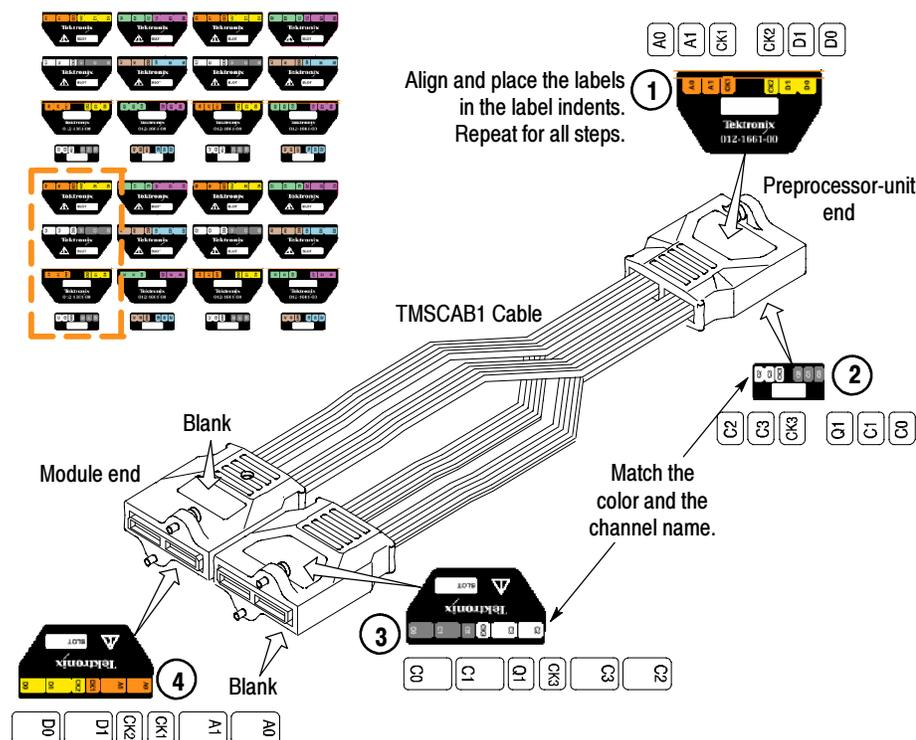

Figure 17: Apply TMS CAB1 labels
2. Follow the steps in Figure 17 while attaching the labels.